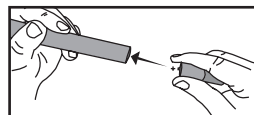

Figure 1.2; Insert Batteries
Insert the batteries one after the other with the positive (+) side in first [Fig. 1.2]. Once the batteries have been inserted, screw the BATTERY CAP ⑧ back on to secure.